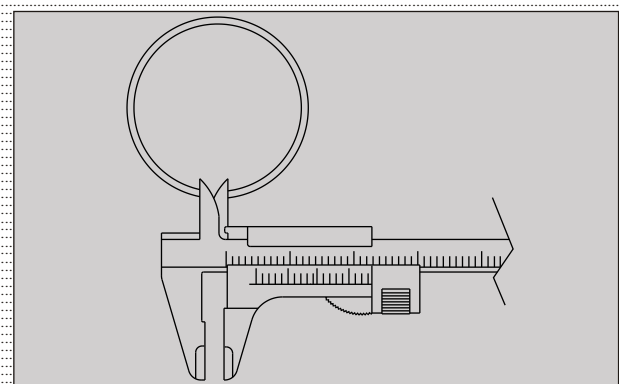

Fig. 3.166
- Inspect rings for proper tension by measuring its free end gap. If it is less than the service limit, replace rings as a set. (Fig. 3.166)